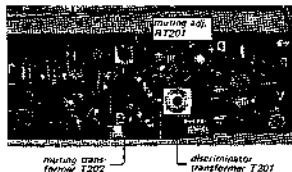

Fig. 3-4. Adjusting parts location
3. Turn the top core (secondary side) of discriminator transformer T201 (see Fig. 3-4) with a hex-head alignment tool to obtain a null-point reading on the tuning meter. If the discriminator transformer (T201) is not aligned correctly, some deviation on the tuning meter will be observed.
2. Turn the knob of RT201 (see Fig. 3-4) fully clockwise on the fm i-f amplifier board.